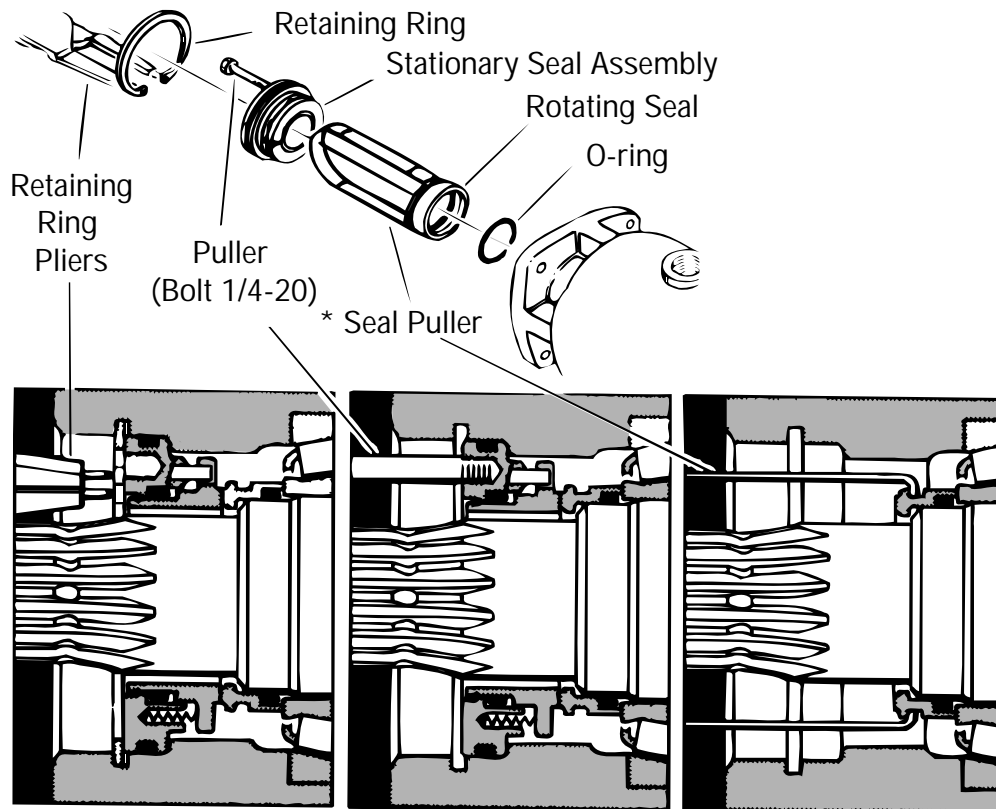

Figure 1
3. Use rotating seal puller* (Figure 1) to grip outside diameter of bronze rotating seal. Remove seal from output shaft.